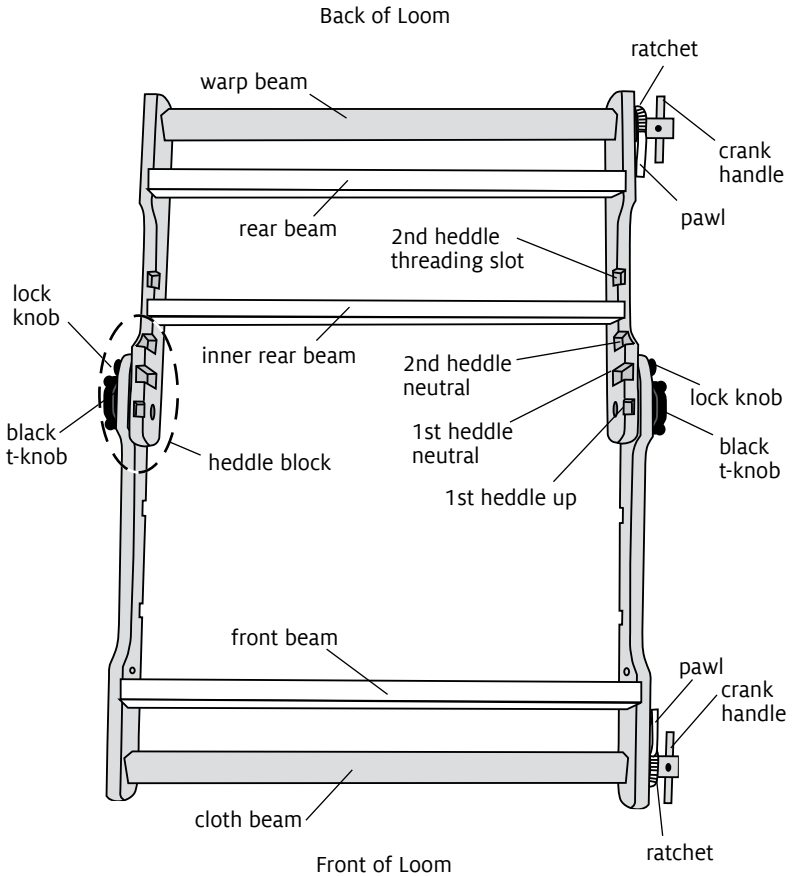
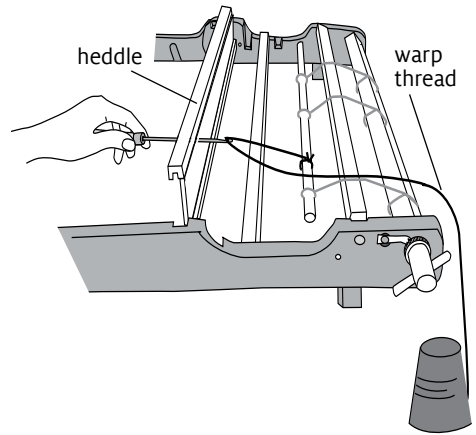
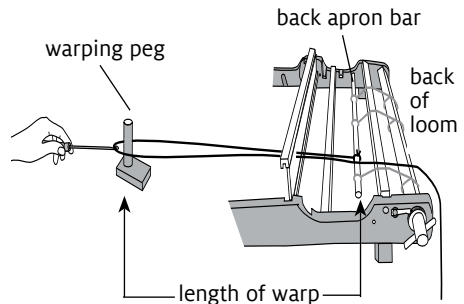

FIGURE 1: LOOM PARTS
FIGURE 5: PULL THE WARP THROUGH THE HEDDLE
FIGURE 6: PLACE THE WARP LOOP ON THE PEG
2. Clamp the back of the loom to the table using the loom clamps (the loom will hang over the edge of the table). The back of the loom is the end with the heddle block (figure 1).
3. Clamp the warping peg as far away from the back apron rod as you want your warp to be long (figure 6).
4. Place your ball or cone of yarn on the floor below the back beam of your loom (figure 5). Place the heddle in the slot labelled "1st heddle neutral" in Figure 1.
**6.** Using the heddle hook, pull a loop of yarn through a slot in the heddle (figure 5). Place the loop of yarn over the warping peg (figure 6). You now have two warp ends going through a single slot.